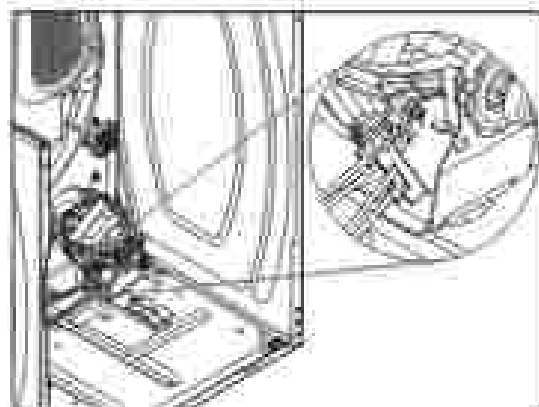

Figure 6
5. Lift the top lid (see Figure 4), and disconnect the wire harness connector from the drive motor (see Figure 6).